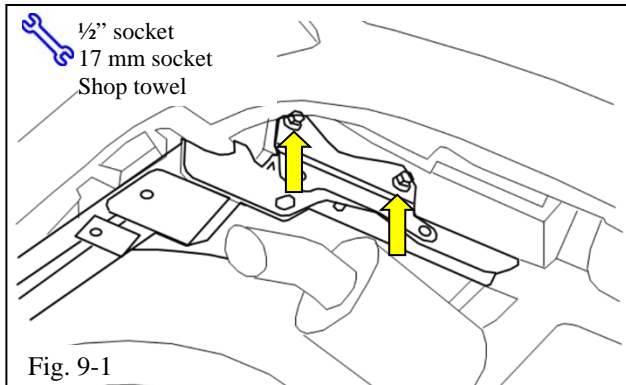

Fig. 9-1
- (a) If needed, remove excess sealant on frame at bracket location (Fig. 9-1).
- (c) Install (2) M12 bolts into the holes (Fig. 9-1).